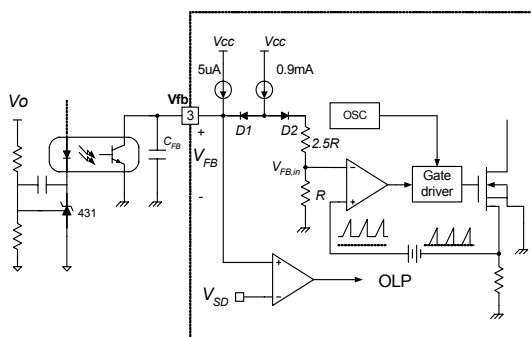

Figure 5. Pulse Width Modulation (PWM) Circuit
**2. Feedback Control :** The FSDx321 employs current mode control, as shown in Figure 5. An opto-coupler (such as the H11A817A) and shunt regulator (such as the KA431) are typically used to implement the feedback network. Comparing the feedback voltage with the voltage across the Rsense resistor plus an offset voltage makes it possible to control the switching duty cycle. When the KA431 reference pin voltage exceeds the internal reference voltage of 2.5V, the opto-coupler LED current increases, the feedback voltage Vfb is pulled down and it reduces the duty cycle. This event typically happens when the input voltage is increased or the output load is decreased.
**4.4 Over Voltage Protection (OVP) :** In the event of a malfunction in the secondary side feedback circuit, or an open feedback loop caused by a soldering defect, the current through the opto-coupler transistor becomes almost zero (refer to Figure 5). Then, VFB climbs up in a similar manner to the over load situation, forcing the preset maximum current to be supplied to the SMPS until the over load protection is activated. Because excess energy is provided to the output, the output voltage may exceed the rated voltage before the over load protection is activated, resulting in the breakdown of the devices in the secondary side. In order to prevent this situation, an over voltage protection (OVP) circuit is employed. In general, VCC is proportional to the output voltage and the FPS uses VCC instead of directly monitoring the output voltage. If VCC exceeds 19V, OVP circuit is activated resulting in termination of the switching operation. In order to avoid undesired activation of OVP during normal operation, VCC should be properly designed to be below 19V.